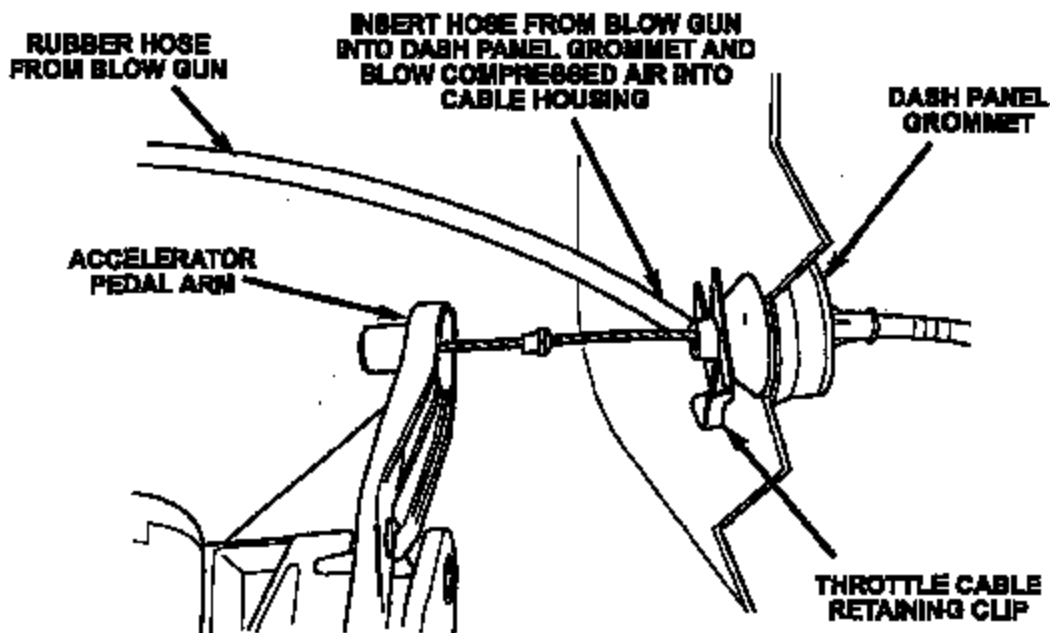

Figure 4
7. Working from the accelerator pedal end of the cable, blow air through the cable grommet located on the dash panel using several five second bursts (Figure 4). Any water in throttle cable will be forced out at throttle body end of cable.